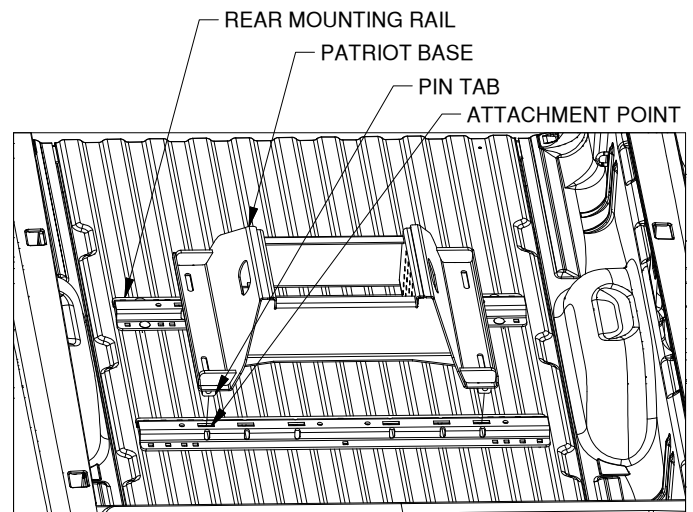

Figure C3: View into truckbed looking back at tailgate.
3. **Position the forward mounting rail.** For this step the base which will be used in the mounting rails is required. Place a mounting rail into the truck bed in front of the rear mounting rail. Place the base over the rail attachment points and carefully lower it until the pin tabs pass through the attachment points on the rear mounting rail. Attach the forward mounting rail to the forward mounting points on the base. The base should rest flat against the top of the rails. See figure C3. With the base still attached ensure that the forward rail is centered in the truck bed.